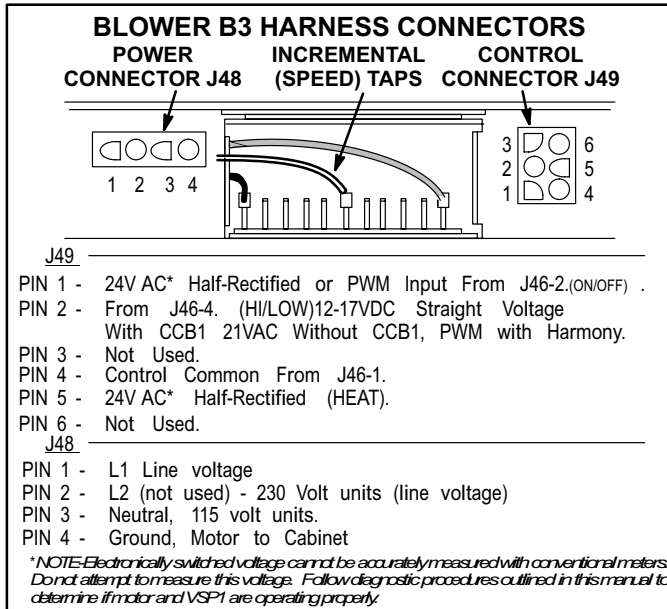

FIGURE 37
Figure 37 shows the two quick-connect jacks (J48 and J49) which connect the motor to the G21V/GSR21V. Jack J48 is the power plug and jack J49 connects the unit controls to the motor. The power plug must be removed to gain access to the incremental (speed) taps.
- 3- Disconnect AC power plug P48 from motor/controller. See figure 37.